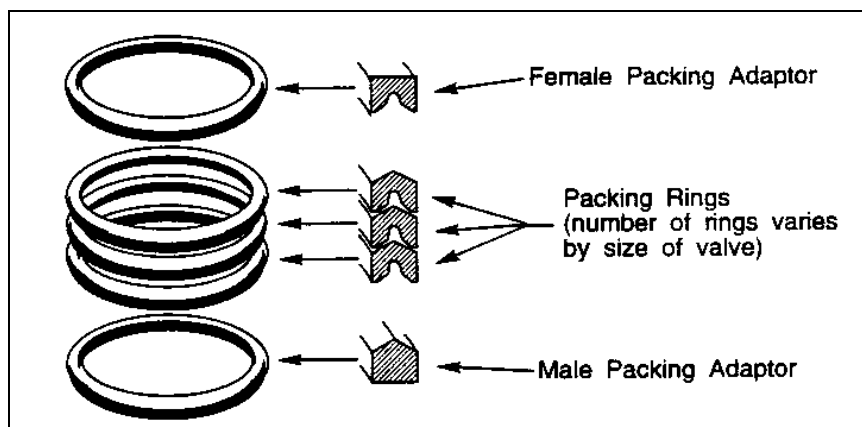

Figure 4 - Correct Packing Installation Sequence
8. For valves with gear actuators, lubricate the new packing (A9), then install it one ring at a time in the sequence shown in Figure 4.
9. For valves with low friction packing, lubricate the new packing (A9), then install it one ring at a time. See Figure 4.